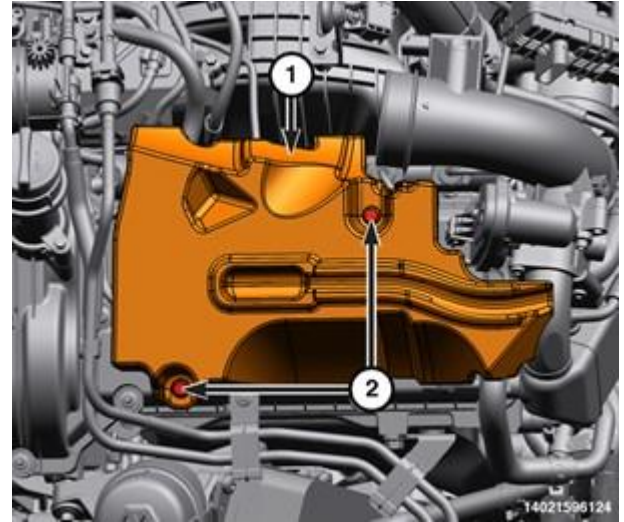

Figure 154 – Left Bank Fuel Rail Cover Bolts
- 18. Remove the bolts (2) and the left fuel rail cover (1) (Figure 154).